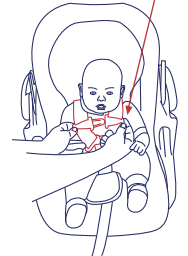

Fig. 38-2
- 14.6.3) Fasten the Harness Chest Clips together. Position the Harness Chest Clip, by sliding the Clip either up or down on the Harness Straps, so that it is level with the child's armpits. Please see figure 38-2.
- 14.7.3) Fasten the Harness Chest Clips together. Position the Harness Chest Clip, by sliding the Clip either up or down on the Harness Straps, so that it is level with the child's armpits. Please see figure 38-2.